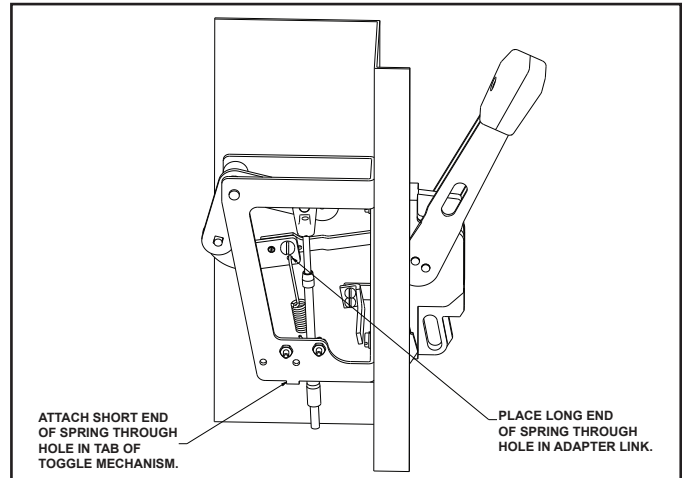

Fig. 1-6 Assembly of Spring to Toggle Mechanism.
6. Connect the long end of the spring through hole in adapter link. Hook the shorter end of the spring into the tab on the lower portion of the toggle mechanism. See Fig. 1-6.